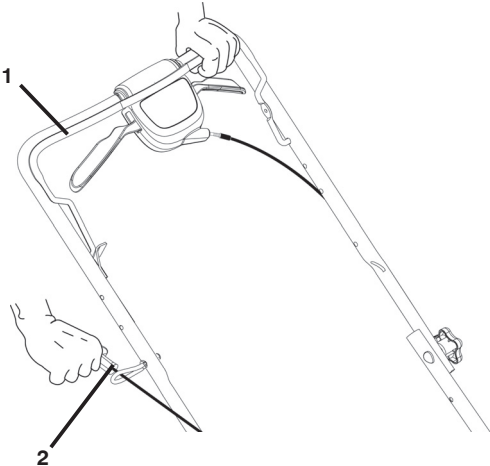

Figure 16
1. To start engine, hold operator presence control bar down to the handle and pull starter handle quickly. Do not allow starter rope to snap back (Figure 16).